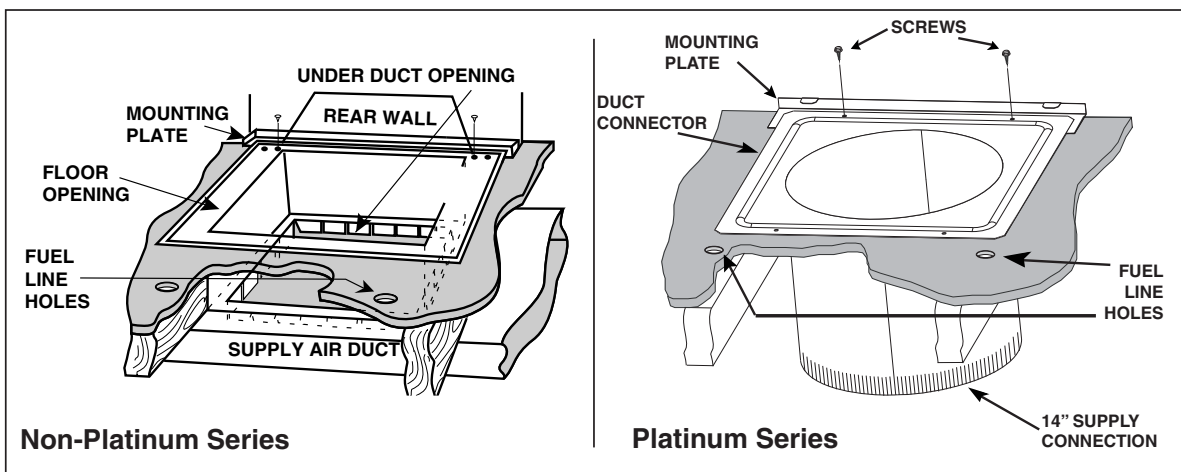

Figure 15. Duct Connector
- a. Place mounting plate (supplied within duct connector) at rear of the floor opening (See Figure 15).
- a. Place duct connector through the floor opening. (See Figure 15).
- a. Place duct connector through the floor opening with bottom tabs extending through the duct opening. (See Figure 15)